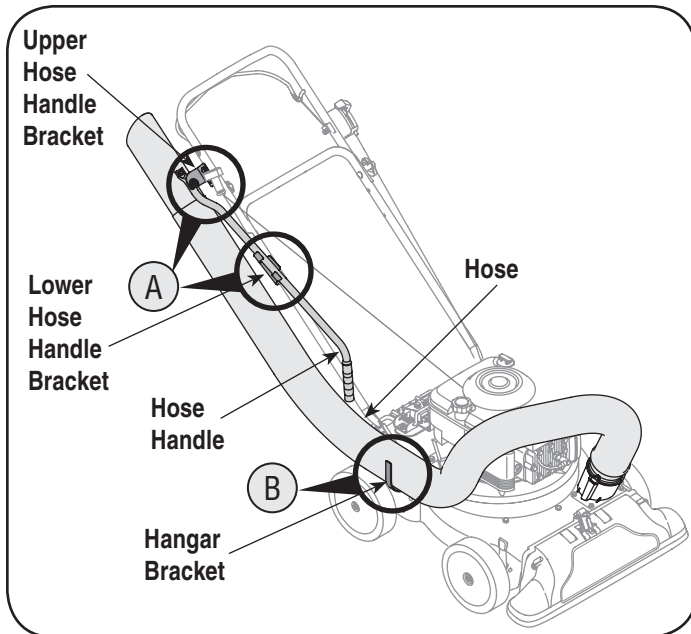

Figure 6
- b. Lay hose tubing on hanger bracket next to chipper chute. See Figure 6.